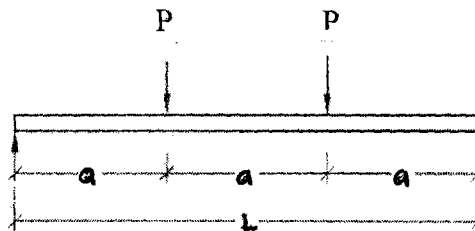

Figure 12/Gambarajah 12
- (ii) The uniformly distributive loads were replaced with two point loads shown in **Figure 12**, determine the: